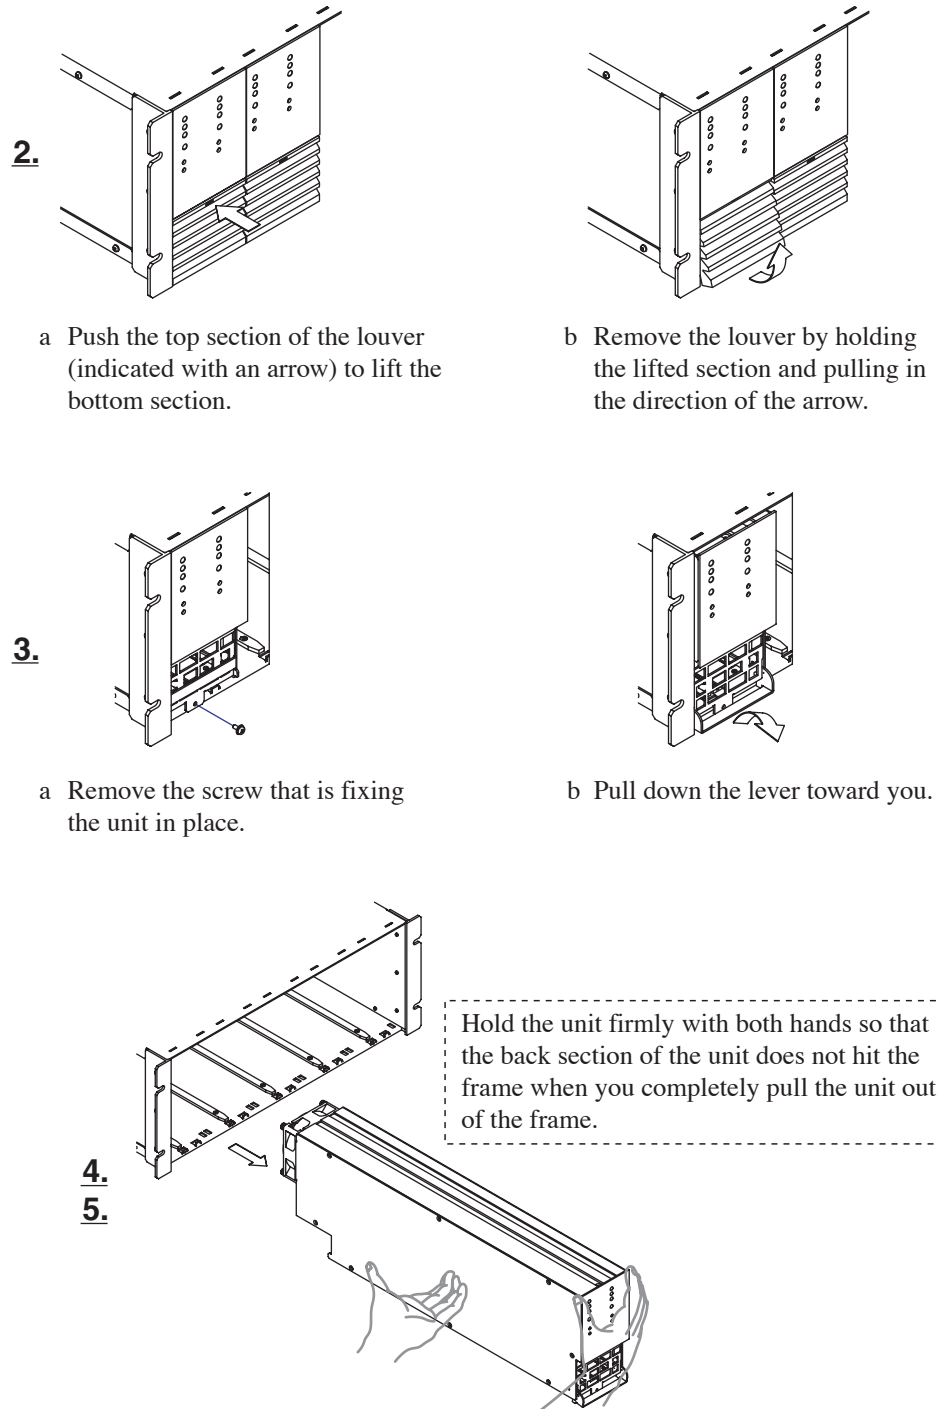

Fig. 1-6 Removing the Charge/Discharge Power Supply Unit (PFX2011 Example)
2. Remove the louver. See Fig. 1-6.
The lock is released. Hold the unit with both hands as shown in Fig. 1-6, and pull it slowly out of the slot.